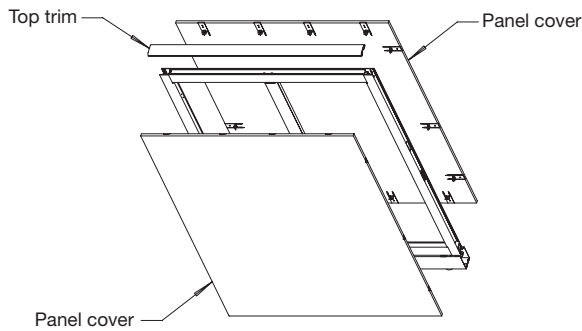

Fig 2
1. On the panel where the slatwall is to be used, remove the top trim and covers. If installing a slatwall only on one side, remove the cover on that side only. **Fig 2**
6. Re-assemble the panel covers, slatwall inserts and top trim. **Fig 2**